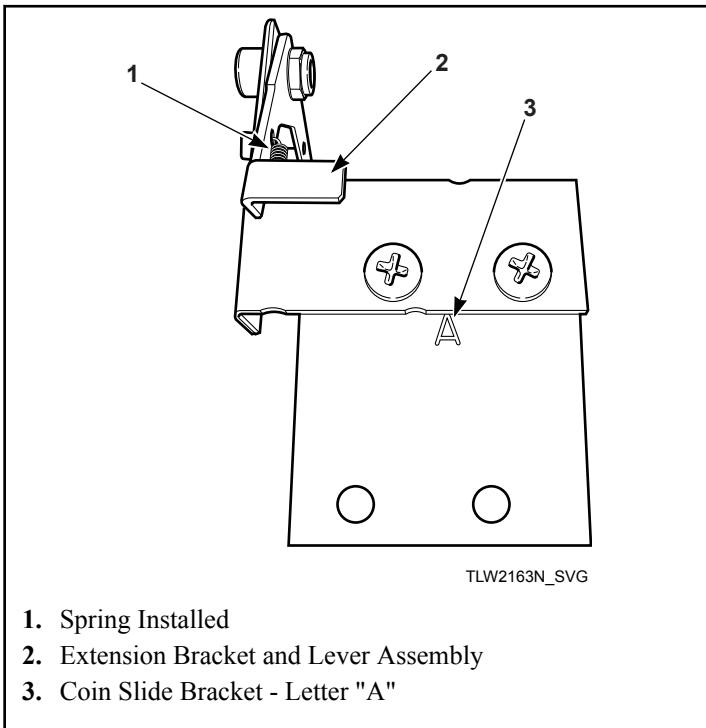

Figure 30
5. Install extension bracket and lever assembly onto coin slide bracket using two screws and locknuts. Refer to *Figure 30* .
IMPORTANT: Install coin slide bracket with side marked "A" facing up and toward extension bracket and lever assembly. Refer to *Figure 30* .